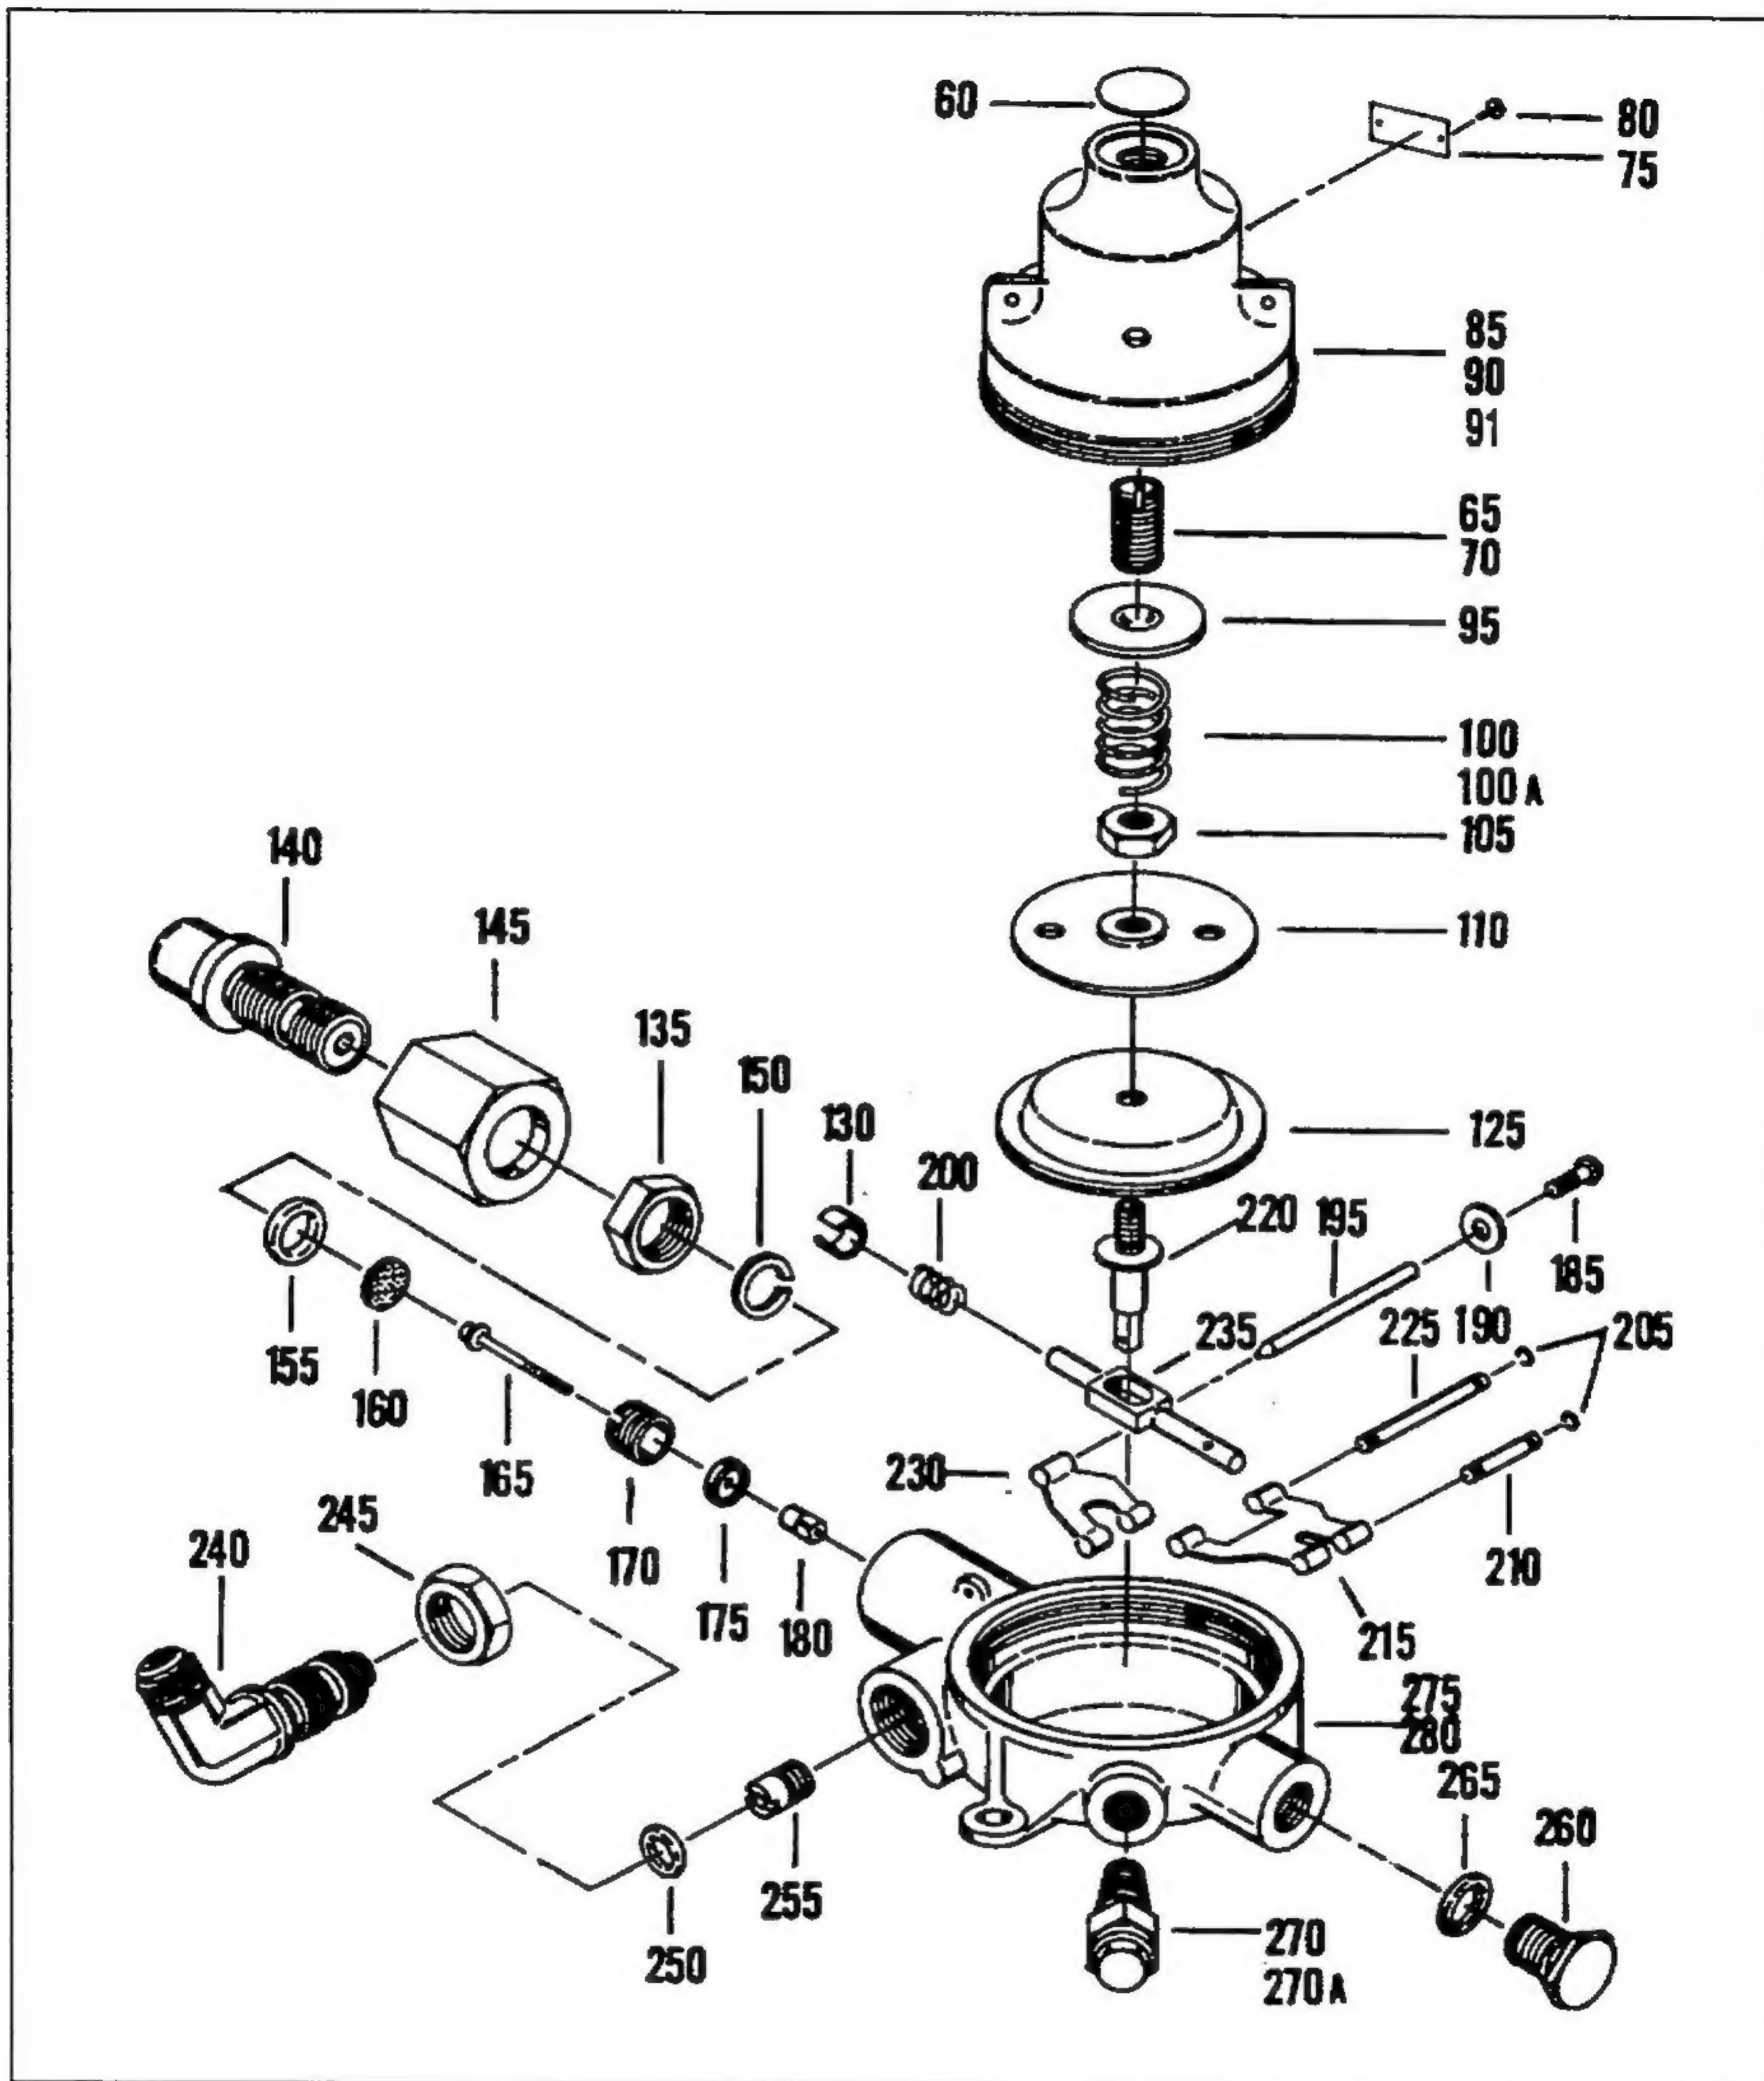

Figure 1 Oxygen Regulator Assembly
A. Parts used on only one part number oxygen regulator assembly (see IPL Figure 1) are indicated by a letter symbol immediately following the description of a part in the "EFFECT CODE" column. An explanation of the letter symbols used is outlined below in Table 1001. A blank "EFFECT CODE" column following a part number indicates that the list part is common to all regulator assemblies.